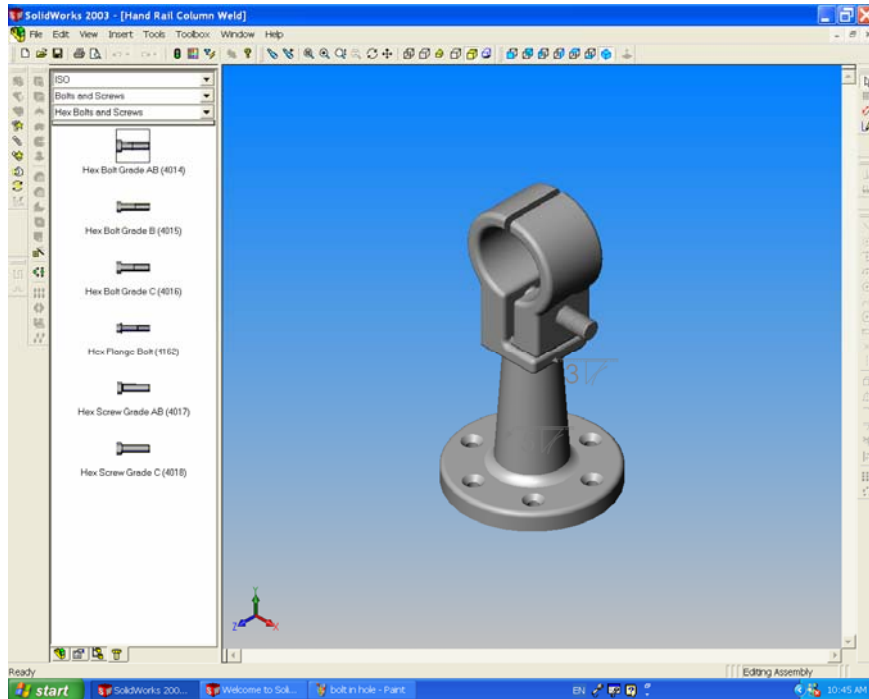

Figure 6
10. Select 'Isometric' . You can now see the Bolt passing through the two parts. See Figure 6. From the 'Chapter' window choose 'Nuts'. The 'Page' is automatically selected and opens at 'Hex Nuts'. Drag a 'Grade C (4034) Nut' into the assembly and drop it on the edge of the hole where the bolt protrudes. Set the parameters of the nut to suit those of the bolt;